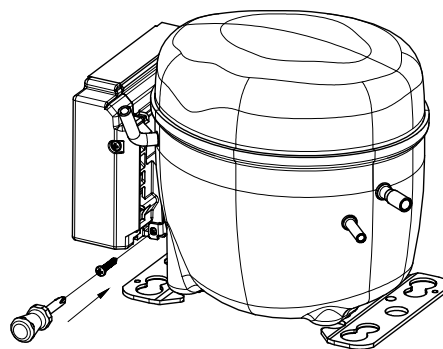

Figure 3-28: Step 4 - Screw the inverter
- The screws shown in Figure 3-28 are for reference only to indicate the fastening positions. Secure the inverter using a screw or washer with a minimum diameter of 10 mm. Tighten to a torque of 0.8 – 1.2 Nm.